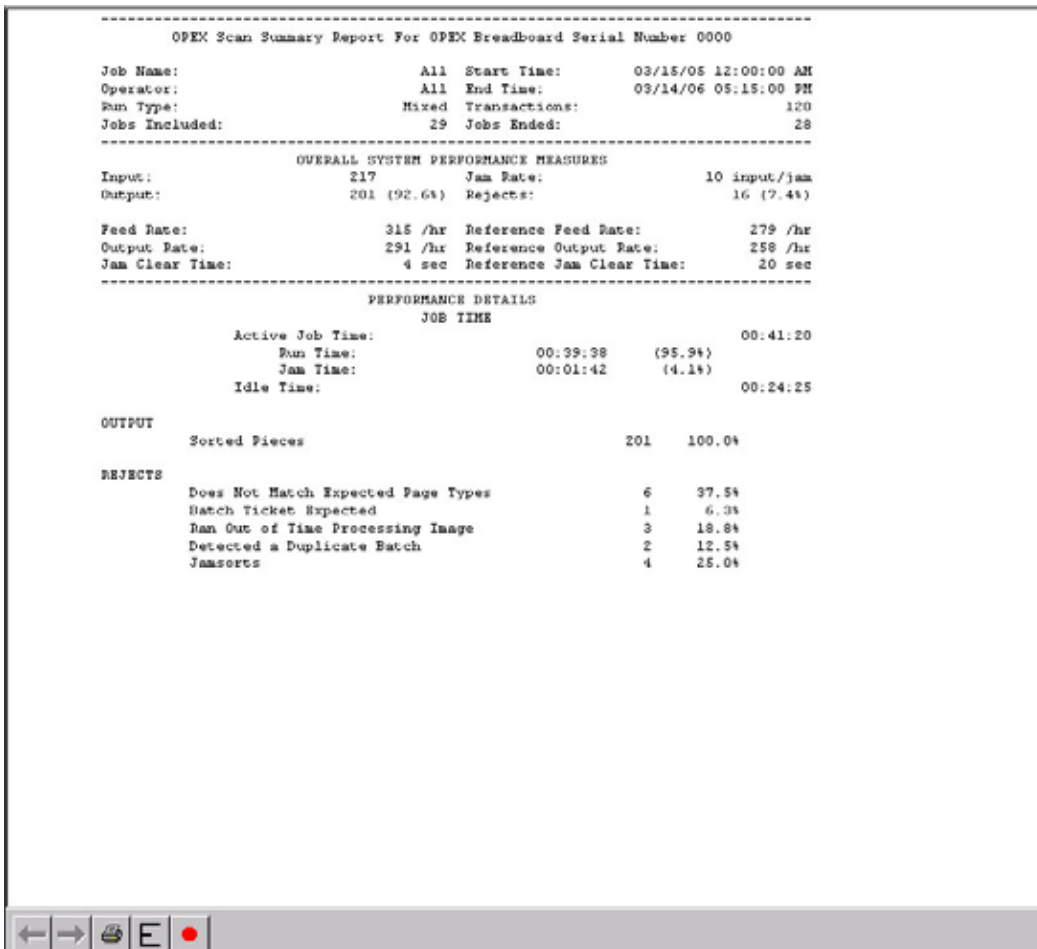

Figure 26: Statistics Report window
- Date - set the start and end date for the report. In Figure 26, the Summary report was run for a single day, but virtually any range can be selected.
- Time - set the start and end time for the report. In Figure 26, these parameters were set to include the 3rd shift (12:00 AM-8:00 AM) and the first shift (8:00 AM to 4:00 PM).
- 6 Click **OK**. The statistics report will appear. Figure 26 shows the report for the above criteria.